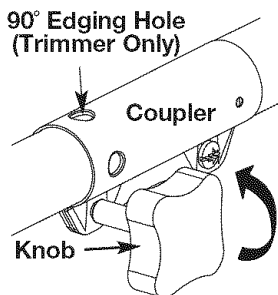
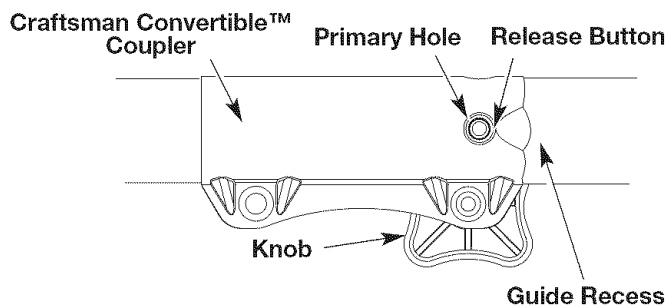
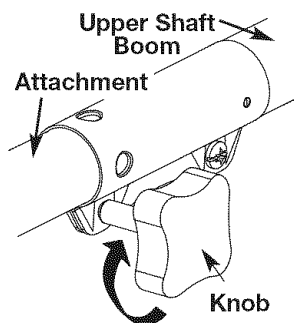

Fig. 15
Fig. 16
Fig. 17
2. Turn the knob counterclockwise to loosen coupler (Fig. 15).
3. Push in the release button (Fig. 16) and twist the shaft 90° until the release button snaps into the 90° hole (Fig. 15).
4. Turn the knob clockwise to lock the coupler (Fig. 17).
**CAUTION:** Before operating this unit, be sure that the release button is fully snapped into the primary hole (Fig. 16), and that the knob (Fig. 17) is securely tightened.
2. Turn the knob counterclockwise to loosen the coupler (Fig. 15).
3. While firmly holding the attachment, push it straight into the coupler until the release button (Fig. 16) snaps into the primary hole (Fig. 16). The primary hole is on the opposite side of the coupler from the knob (Fig. 16). Align the release button with the Guide Recess (Fig. 16) to help installation.
3. Press and hold the release button (Fig. 16).
4. While firmly holding the upper shaft boom (Fig. 17), pull the attachment out of the coupler.